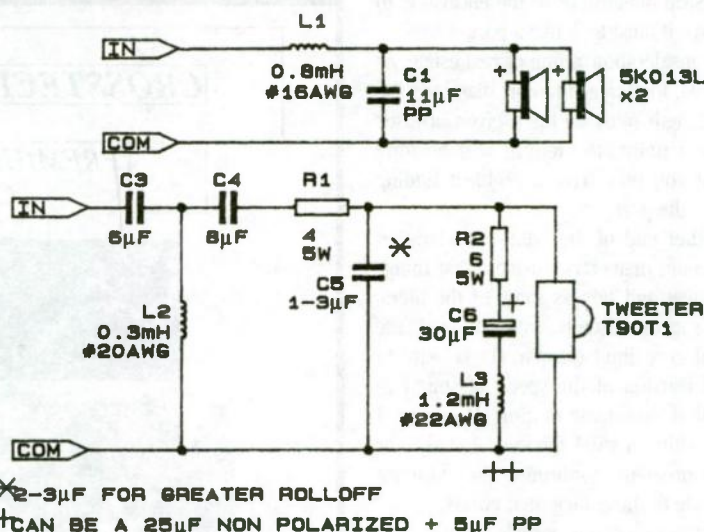

FIGURE 1: Aria 5Ti crossover.
1. I have included the crossover schematic (Fig. 1) from SB 1/93 ("SB Mailbox," p. 62). Is this the correct crossover for the Aria 5Ti? If not, what is the latest version?